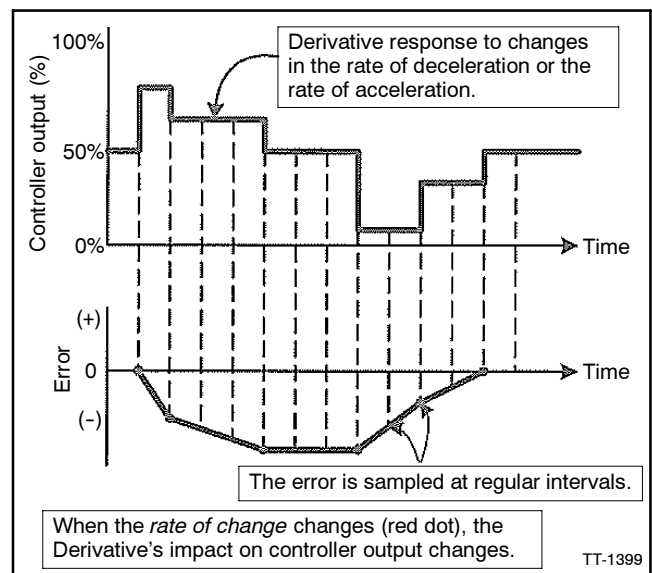

Figure 8-17 Derivative Value
7. **Derivative.** Enter the value from the Governor Parameter Summary. See Figure 8-17.